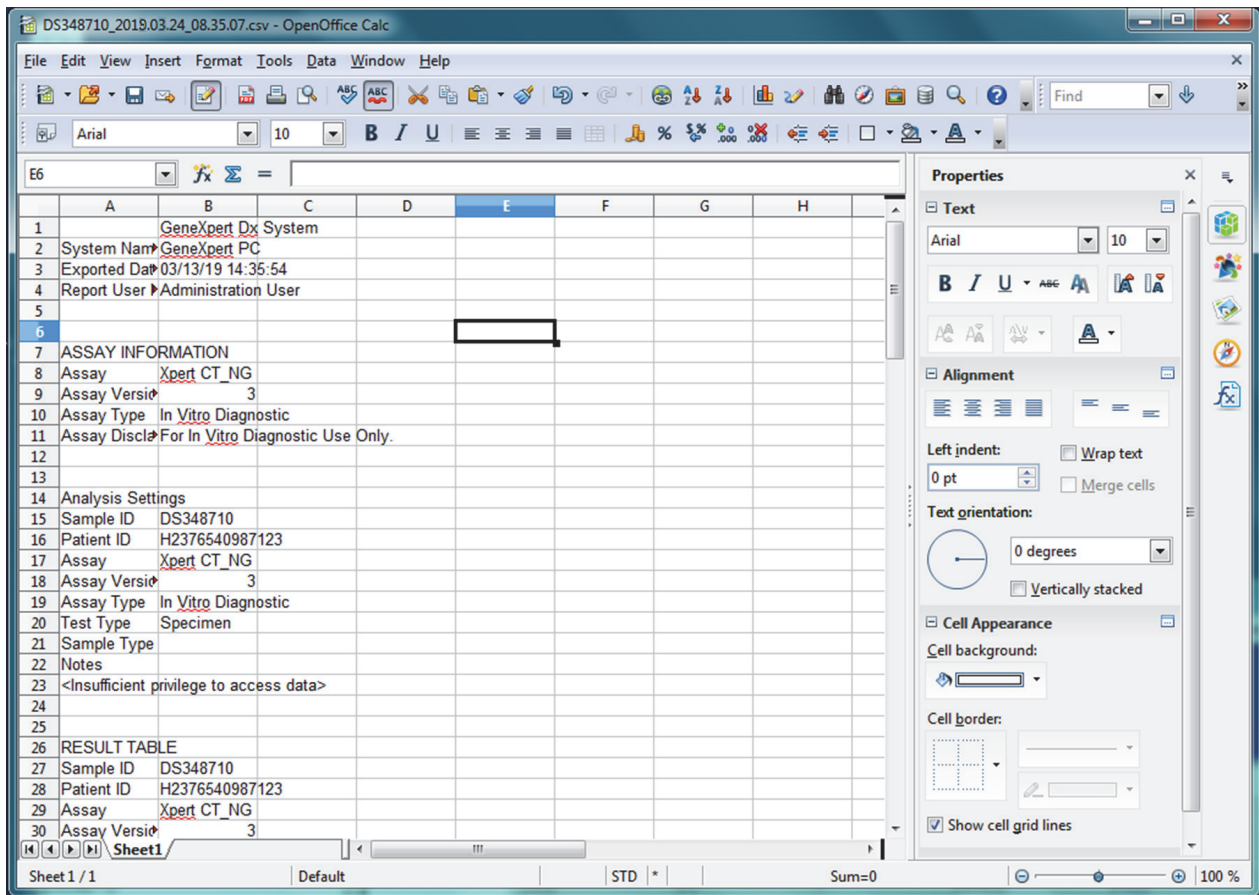

Figure 5-59. Example Exported Test Results
8. Click the checkbox to the left of **Default value**, and then click **OK** to close the dialog box. The column widths will then adjust and the file will be formatted, as shown in Figure 5-59. Click anywhere in the blank columns to “deselect” the blue cells and turn the cells white again.